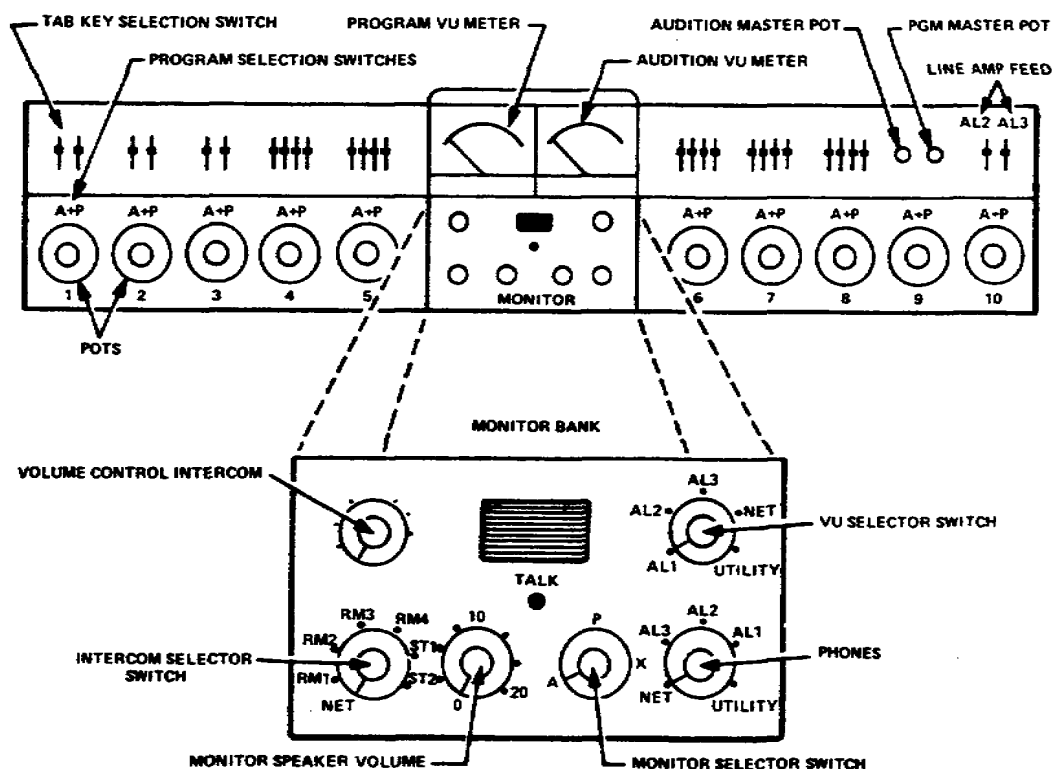

Figure 2-20. Audio console, Gates Diplomat
a. The Gates Diplomat is a fully transistorized monaural console. It is completely dual channel, with ten mixing channels, cue-intercom and 28 upper level tab keys. It is a low impedance type console, with ladder attenuators which operate in 2 db steps (fig 2-20).
NOTE: On pots four through 10 (fig 2-20) there is an extra position on the pot itself, below the zero mark, which is called the cue or detent position. This cue position connects any input to the pot to the cue amplifier and allows for the cueing up of the source.